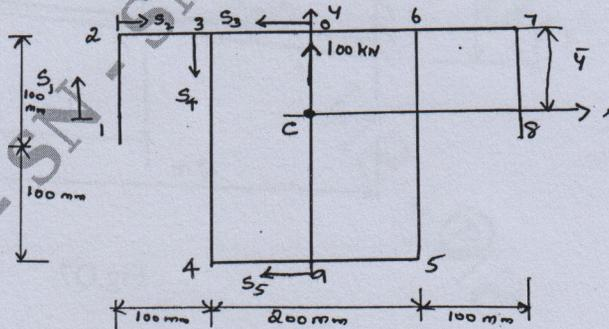

Fig.Q3(a)
- 3 a. Determine the shear flow distribution in the beam shown in Fig.Q3(a). When it is subjected to a shear load in its vertical plane of symmetry. The thickness of the walls of the section is 2 mm throughout. (10 Marks)